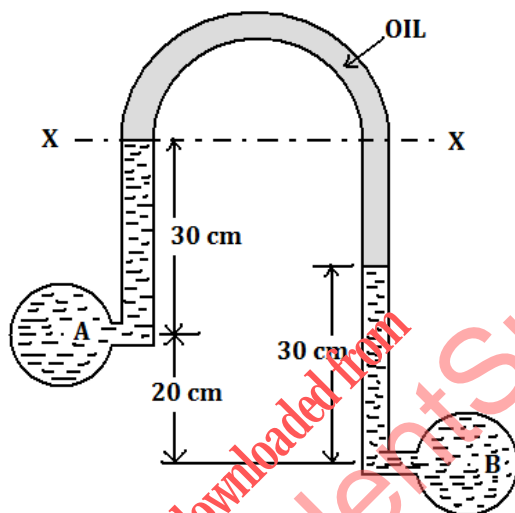

Fig. 1
- Q.2 (a)** An inverted differential manometer is connected with two pipes A and B in which water is flowing as shown in fig. 1. The manometric fluid is oil of specific gravity 0.8. Refer the figure and find the pressure difference between A and B. **07**